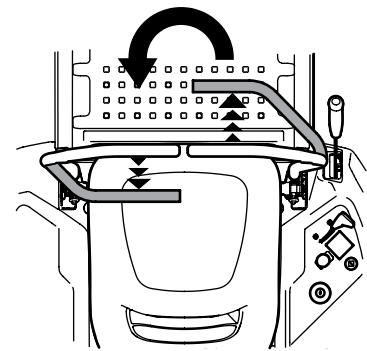

Figure 3-12
- To turn counterclockwise, move the right drive control lever forward while simultaneously moving the left drive control lever rearward. See Figure 3-12.